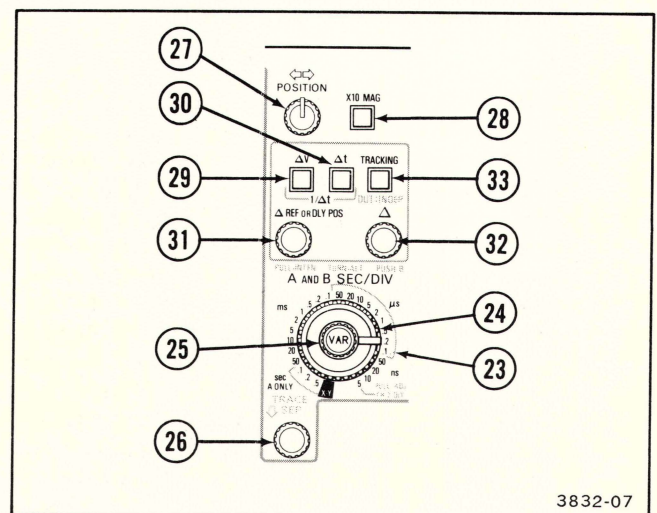

Figure 3-4. Horizontal and delta measurement controls.
Refer to Figure 3-4 for items 23 through 33.